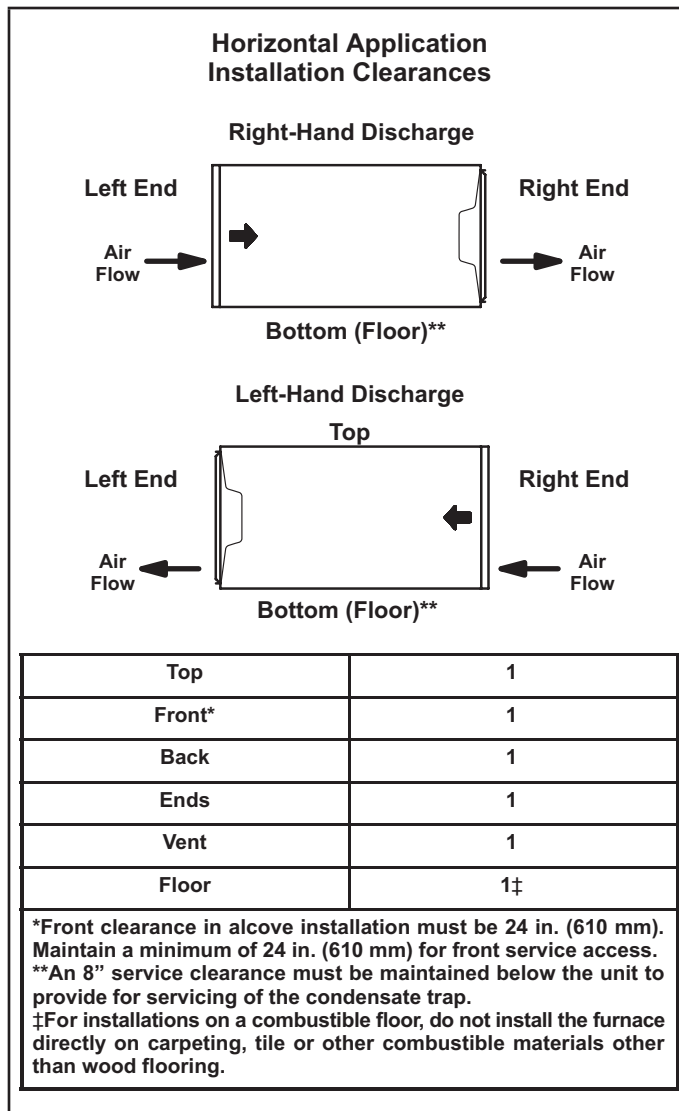

FIGURE 11
The SL297UHNV furnace can be installed in horizontal applications with either right- or left-hand air discharge. Refer to FIGURE 11 for clearances in horizontal applications.
- 1 - Select location for unit keeping in mind service and other necessary clearances. See FIGURE 11.